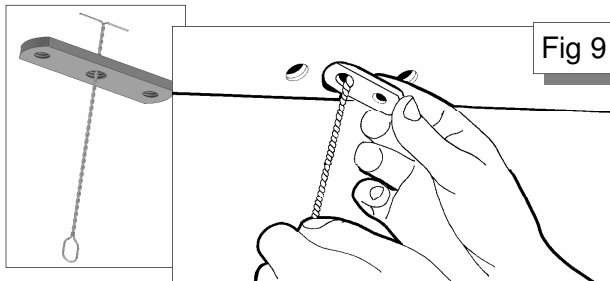

Fig 9
1. Insert the installation tool (Item 15) through the centre hole of the short mounting plate (Item 3) as seen in Fig. 9.
2. Whilst holding the end of the installation tool, push the mounting plate through the centre 22mm hole in the metal panel. (Fig. 9)